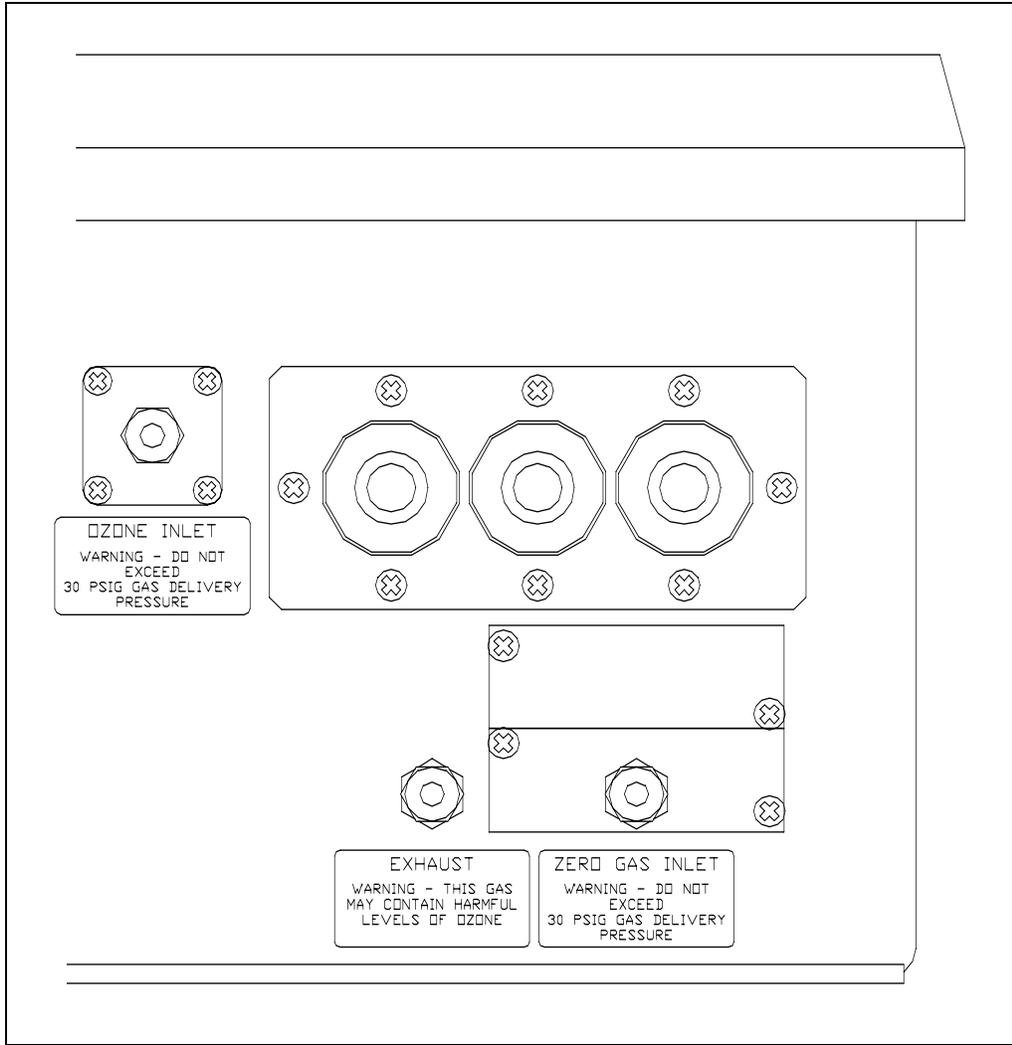

FIGURE 1.3 – NEMA 4X PNEUMATIC CONNECTIONS
7. Connect the ozone delivery line to the ¼” inlet fitting on the bottom of the filter assembly. This assembly is located on the bottom face of the enclosure (See Figure 1.3.) The ozone delivery pressure should be regulated to no more than 30psig. All tubing used should be made of ozone resistant material such as PTFE(Teflon™) or PFA. If new, unconditioned tubing is used for the ozone delivery line, the ozone concentration may be affected until the tubing becomes conditioned. Pre-conditioned ¼” tubing can be purchased from Teledyne API. Contact the API sales department and reference part number 02639.